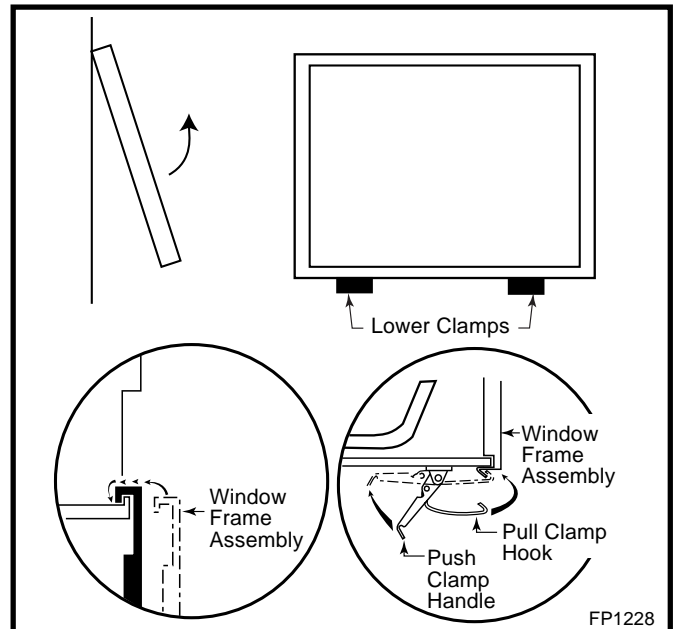

Fig. 37 Window frame assembly removal.
5. Release the two clamps securing the lower edge of the window frame assembly by pulling down on the handles. (Fig. 37)